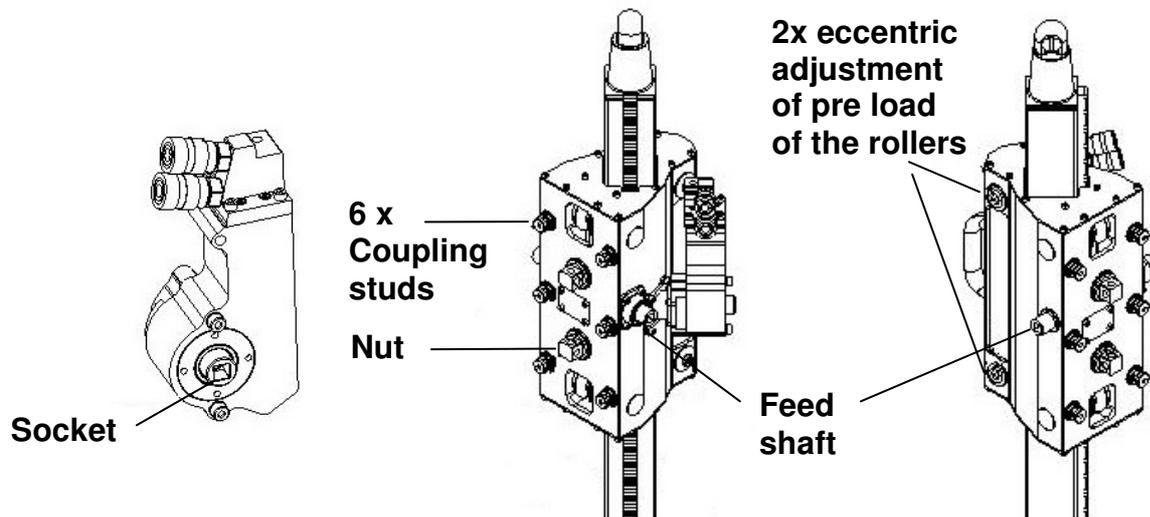

Fig. 4. Hydraulic feed unit HD and carriage CE1 on the column.
2. Put the carriage on the column (see fig. 4).
6. Lock the eccenters (see fig. 4) with an 15 mm wrench.